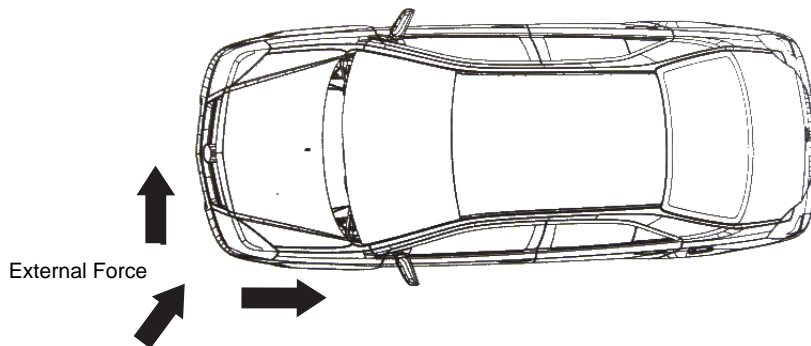

Fig. 5-15 External Force Having an Angle with Vehicle Centerline
3. External Force Having an Angle with Vehicle Centerline (Fig. 5-15)
As shown in Fig. 5-15, when the vehicle is acted by an external force having an angle with its centerline, the force will affect the hood root and the front window side post if it is strong enough.